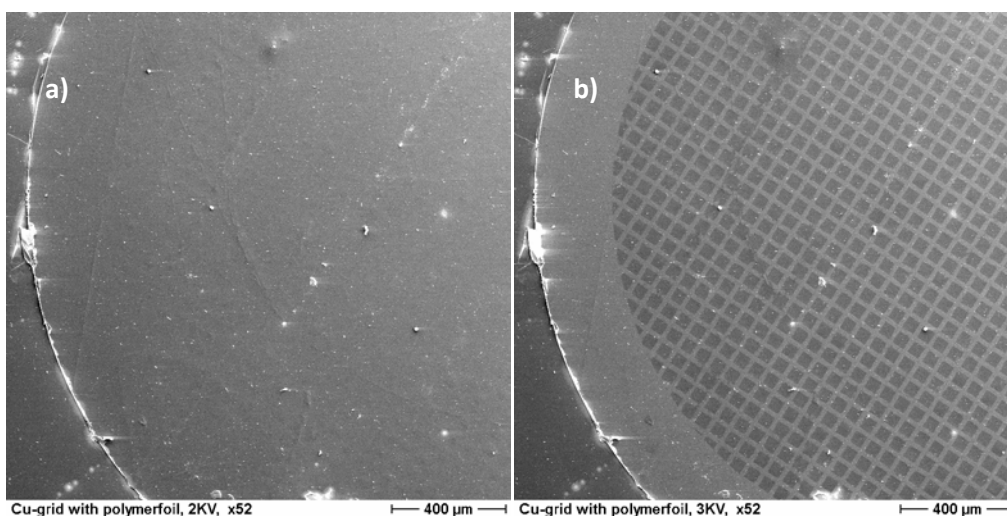

Figure2, a) HV= 2kV. b) HV= 3kV
2. Influence of Acceleration Voltage (HV) (2 marks)
A copper grid with a polymer thin film coating on top is used to study the influence of acceleration voltage (HV). Fig 2 (a) and (b) are SE images of the sample using different HV. Explain why different images are observed on the same sample and discuss the influence of HV.